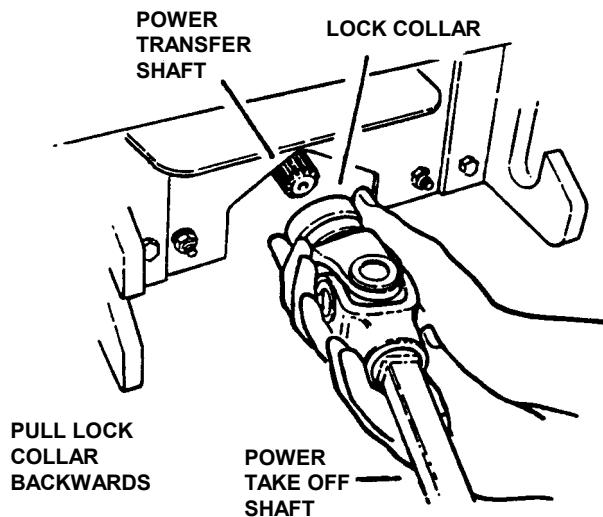

FIGURE 4.11
6. Pull lock collar back and slide power transfer shaft away from power take off (PTO) shaft. See Figure 4.11.
Engage parking brake. Turn engine "OFF" and remove key. The power transfer shaft connects the power unit to the mower deck. The shaft is telescoping for easy removal. Slide locking collar back toward mower deck and shaft will slide off. See Figure 4.11.